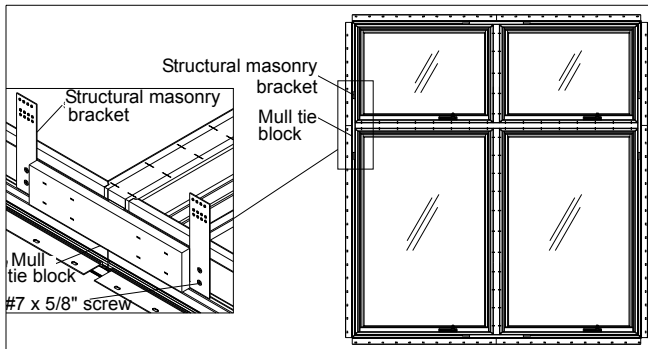

Figure 27
3. Center and attach mullion tie blocks at mullion with at least four 3/16" x 1" 18 gauge staples on each side of mullion as shown in figure 27. Attach structural masonry brackets on each side of mullion using two #7 x 5/8" screws. Structural brackets should be installed within 6" of mullion junction as shown in figure 27.